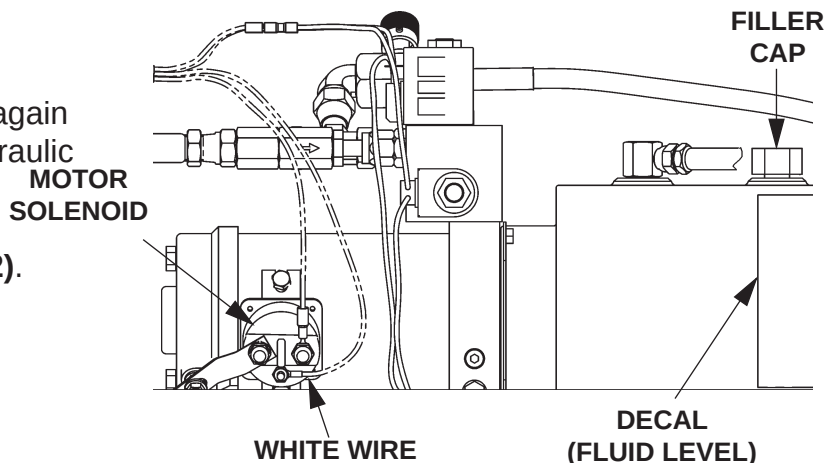

FIG. 12-2
3. Disconnect the White Wire (**FIG. 12-2**) from Motor Solenoid. Lower the Platform while draining the remaining hydraulic fluid from system. Re-install Drain Plug. Reconnect the White Wire to Motor Solenoid.
4. Remove Filler Cap (**FIG. 12-2**) and refill reservoir to the level shown on decal.
5. Raise Platform to vehicle bed height. Check hydraulic fluid again and, if needed, add more hydraulic fluid (**FIG. 12-2**).
6. Reinstall Filler Cap (**FIG. 12-2**).